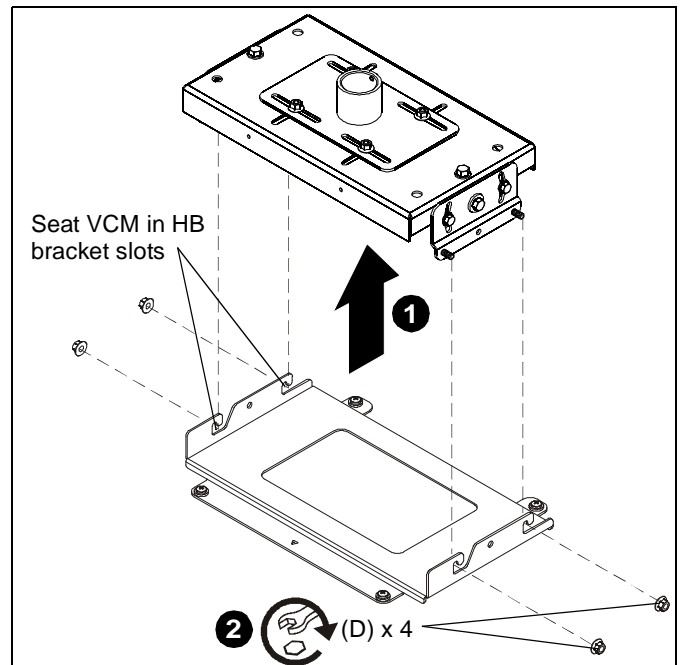

Figure 3
1. With help of assistants, lift the projector with HB bracket (A) and install it to the four studs extending from the VCM mount (B). Ensure that the VCM mount is seated in slots on HB bracket. (See Figure 3)
2. Tighten the four 5/16" flange nuts (D). (See Figure 3)